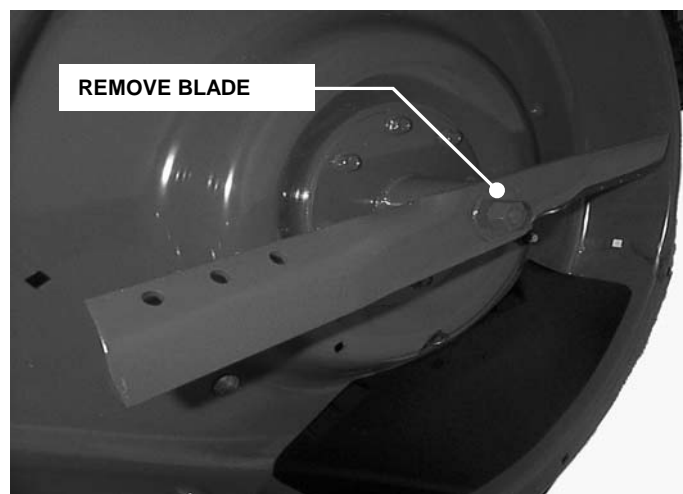

FIGURE 4.2
3. Remove blades. See Figure 4.2.
7. Reinstall blades. Carefully align center hole in blade onto blade retainer and slide on spindle shaft. Install cone washer and nut. Torque nut to 60 to 90 ft. lbs. See Figure 4.2.